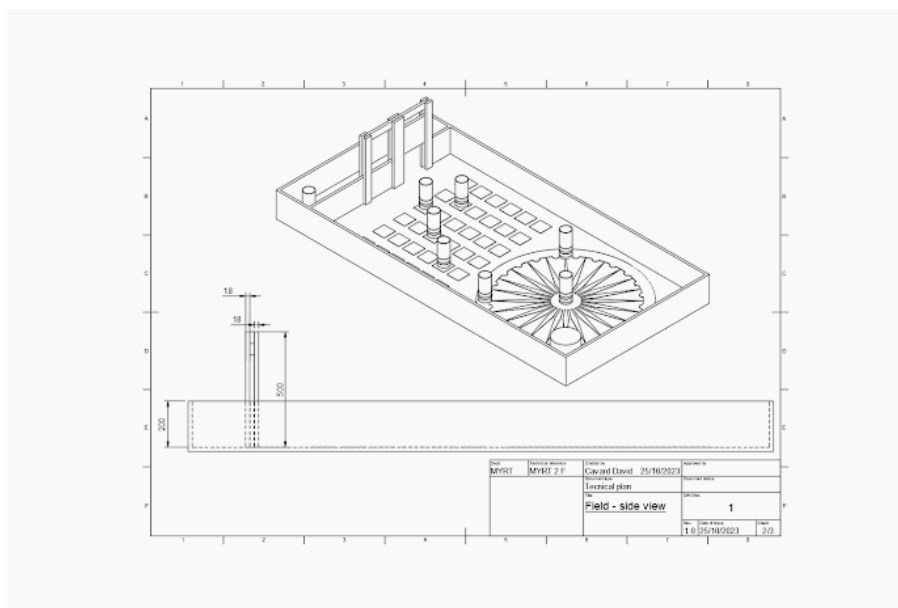

Figure 2
- Figure 2** : Platform dimensions.
Figure 2 illustrates the overall architecture of the competition platform and indicates the surface of the platform, the position of the charging stations and the Energy Storage Station.